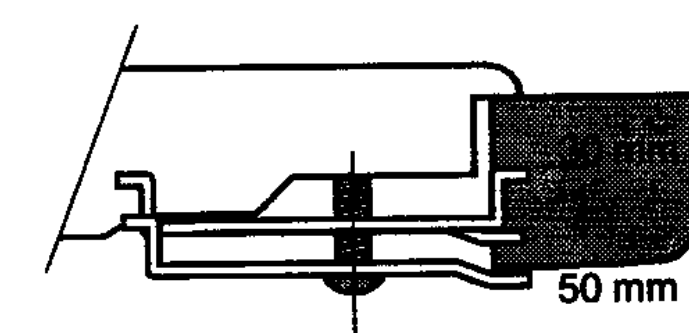

fig. 6
- Place the hob in the cut out and secure the fixing brackets (see fig. 6).